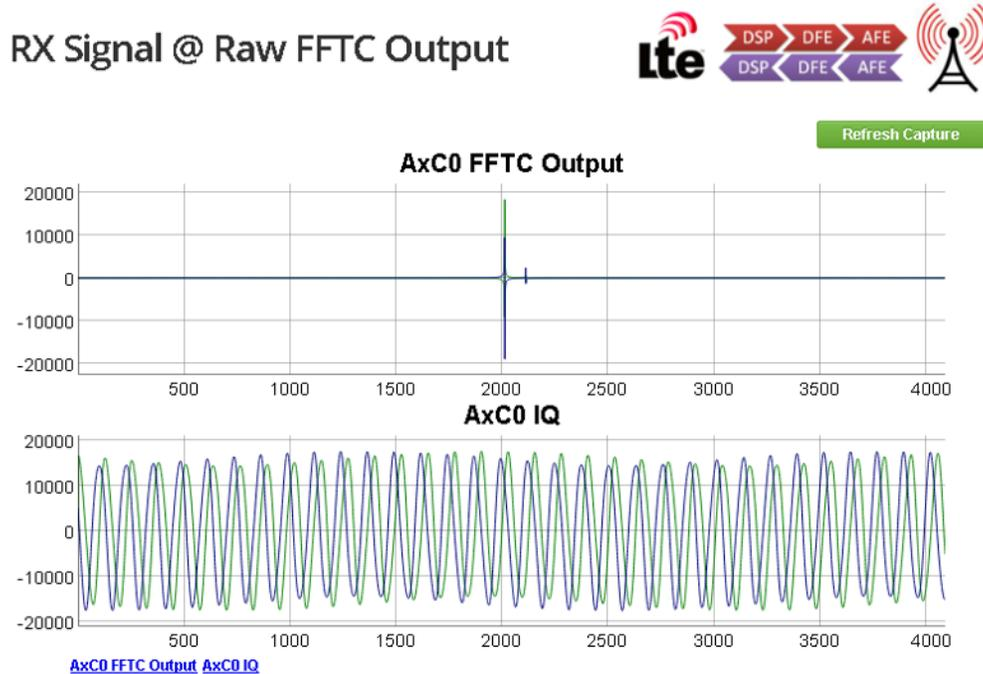

Figure 23. FFTC Output
13. The RX captured data can be picked up by the FFTC co-processor and displayed as shown in Figure 23.